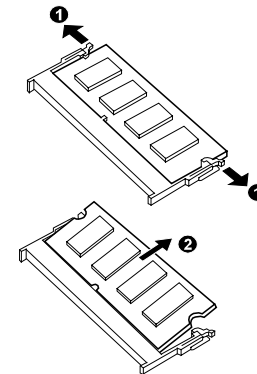

Figure 2-14 Remove the SO-DIMM
3. Full the retaining clips outwards (❶) and remove the SO-DIMM (❷). (Figure 2-14)